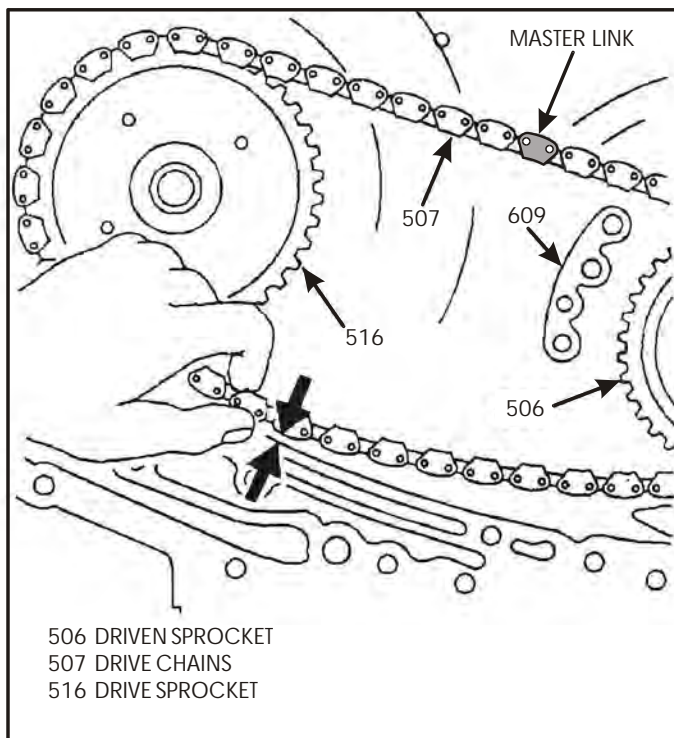

Figure 66
- B. Pull the drive chain toward the case at the location indicated in Figure 66.
- C. Measure the distance between the case and the drive chain, as shown in Figure 66. If the distance is more than 1/8", the drive chain should be reused. If the distance is less than 1/8", replace the drive chain. Refer to Figure 66.